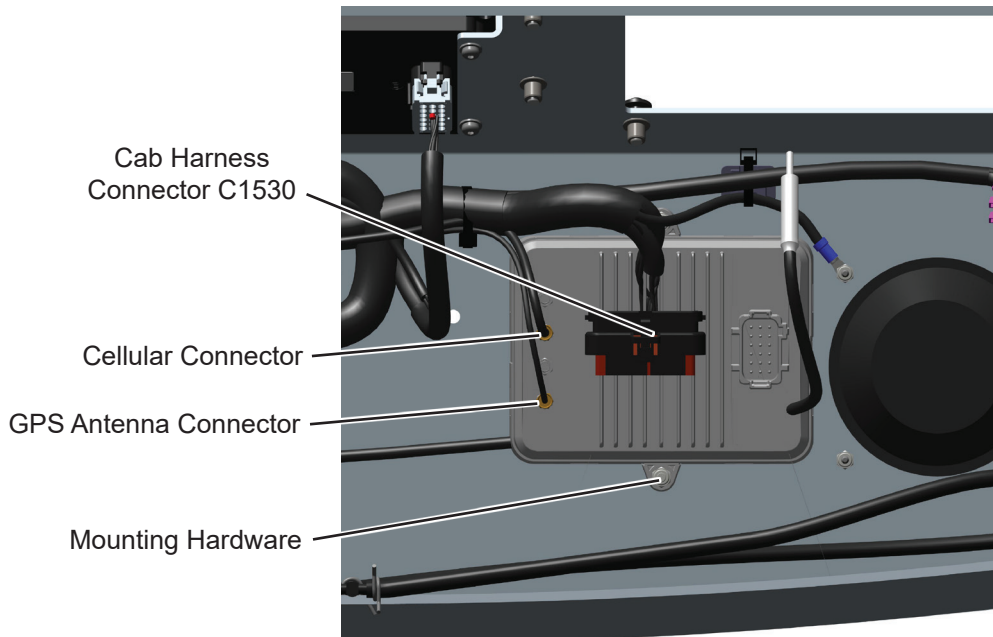

Figure 2
5. Disconnect cab harness connector C1530, GPS antenna connector, and cellular connector from T17 module. See Figure 2.
6. Remove screws and lock nuts securing T17 module to bottom of overhead console. See Figure 2. Screws and lock nuts will not be reused.
7. Remove T17 module from overhead console. See Figure 2. T17 module will not be reused.